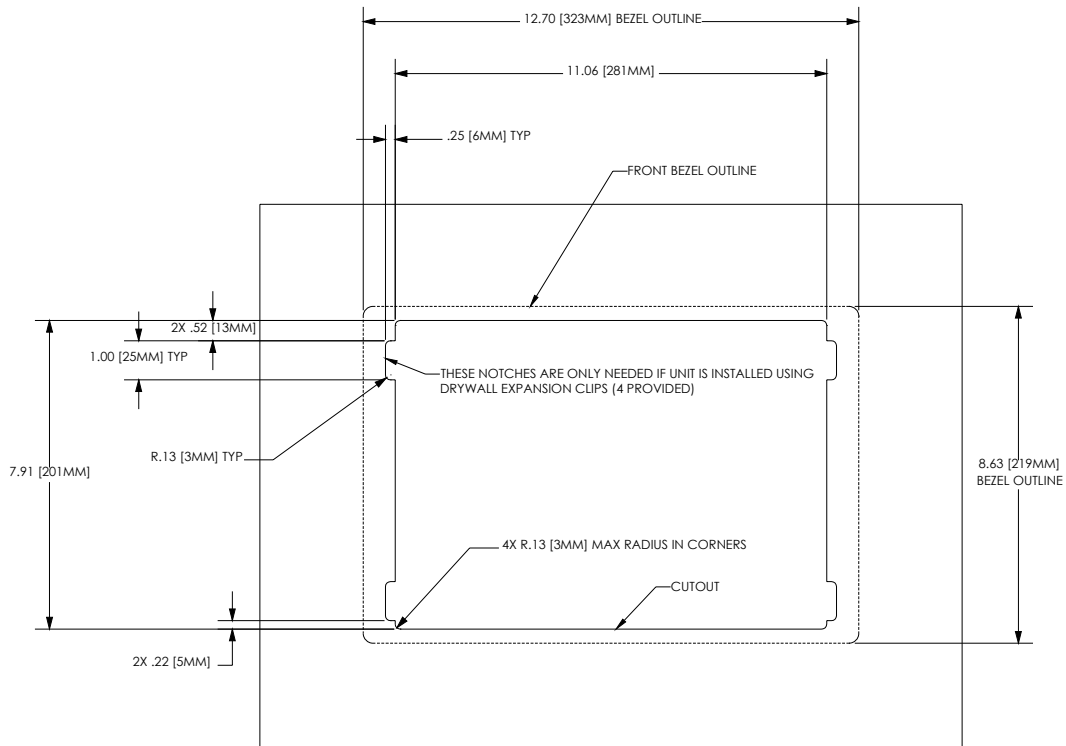

FIG. 11 MVP-WDS Wall Mount cutout dimensions using expansion clips
- Cut out the surface for the WDS using the dimensions shown in installation diagram **SP-5965-01** (reproduced in FIG. 11 on page 10). It is recommended that you cutout the surface slightly smaller than what is outlined in the installation drawings so that you can make any necessary cutout adjustments.